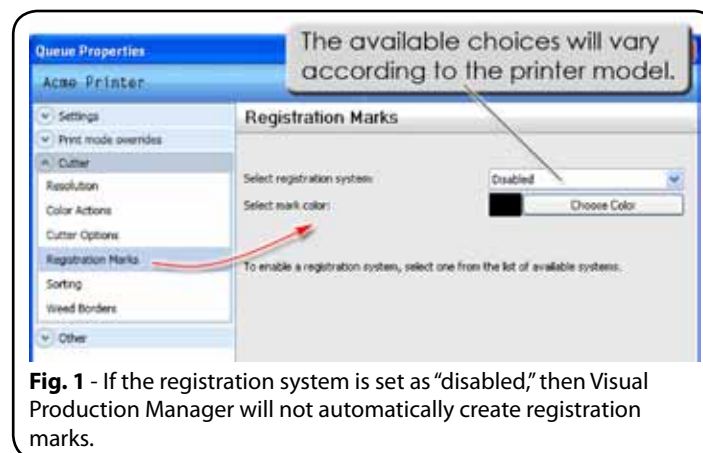

Fig. 1 - If the registration system is set as “disabled,” then Visual Production Manager will not automatically create registration marks.
3. From the **Select registration system** drop-list, choose the type of registration marks (Fig. 1).